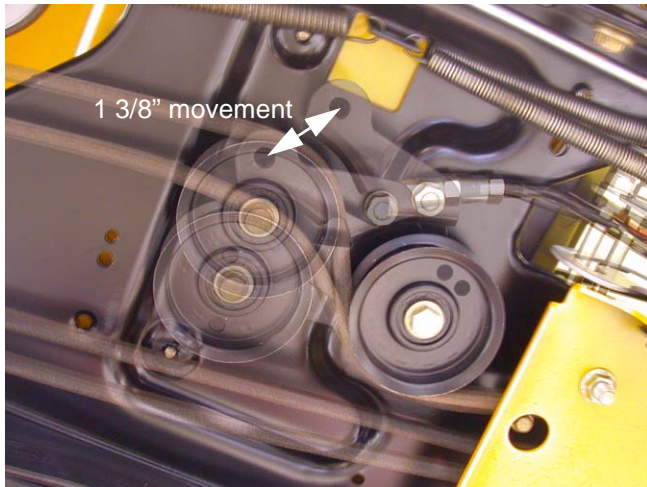

Figure 18.11
18.11. The empty hole in the double idler bracket should swing through an arc of $1\frac{3}{8}$ " when 10 lbs. of force is applied to the drive pedal. See Figure 18.11.